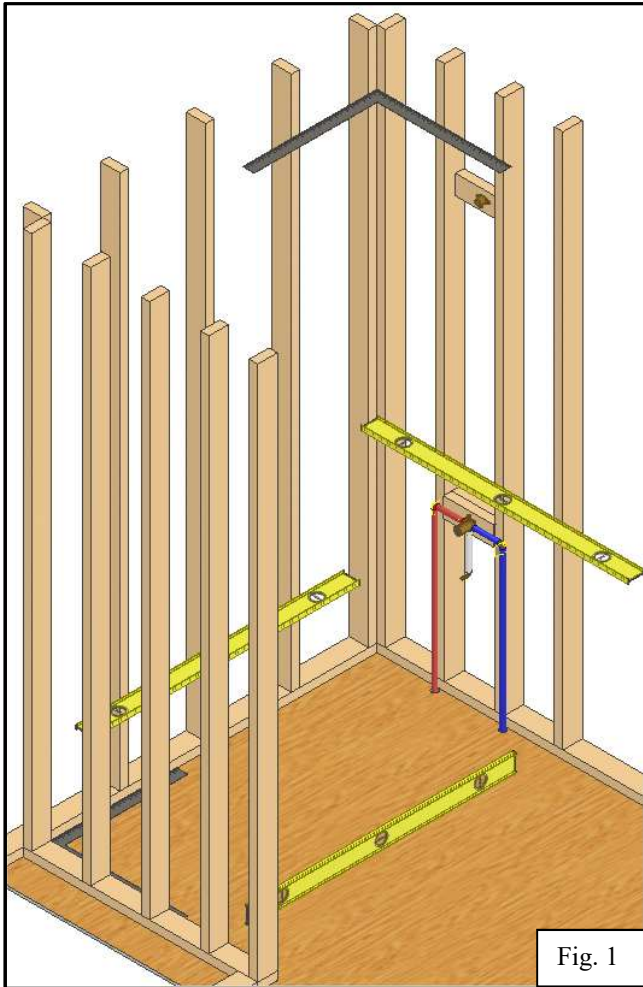

Fig. 1
- 2) Level and square studs and floor. Note that if support legs are on bottom they should not touch the floor when model is installed. They are only there for shipping purposes. Check Spec Sheet for rough-in dimensions. Dry fit shower once this is done to ensure proper fit. (Fig. 1 & 2)